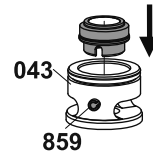

Fig. 12
3. Press the stationary seal ring of the mechanical seal along with o-ring manually into the sealing sleeve 043, see Fig. 12. Take the position of the clearance for the adapter sleeve 859 into account.